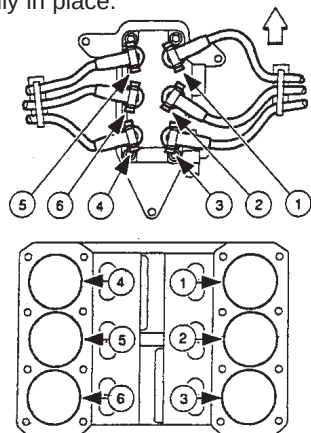

Fig. 10
6. Re-connect each high tension lead to the correct spark plug (Fig. 10).